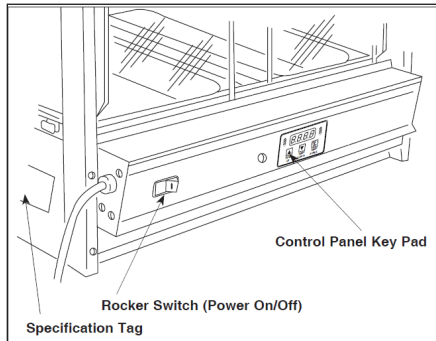

Figure 12. Controls
1. Set the rocker switch (Figure 12) to the ON position.